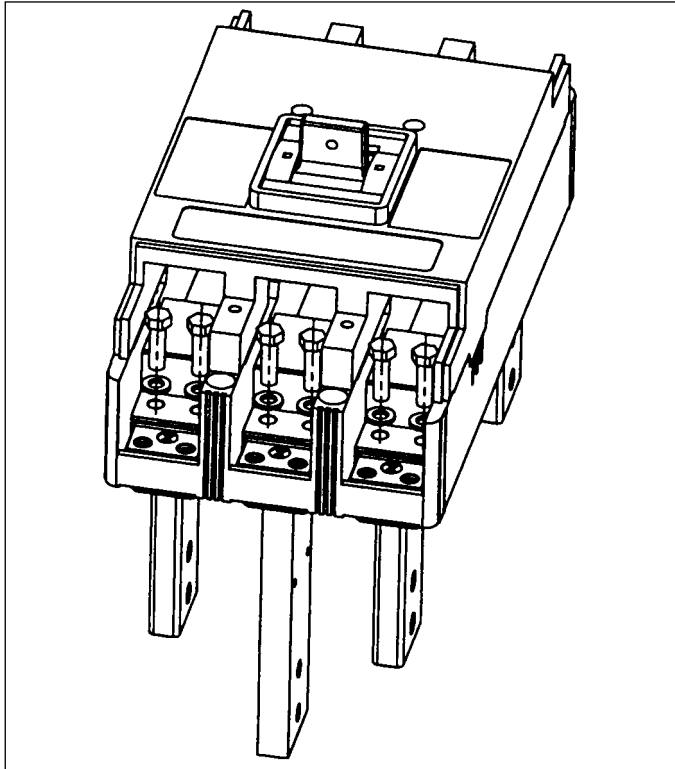

Figure 2-3 1600 Amp Rear Connector Installation (Connectors, Barriers and Hardware Included)
All 1600 Amp N-Frames require Rear Connectors or Front Connectors as shown in figures 2-3 and 2-3a.
- b. Install the rear connectors to the line and load side of the circuit breaker (Figure 2-3). Do not fully torque the bolts until after the barriers are positioned correctly. On three pole breakers the longer connectors are on the center phase. On four pole breakers, short and long connectors should alternate on adjacent phases.